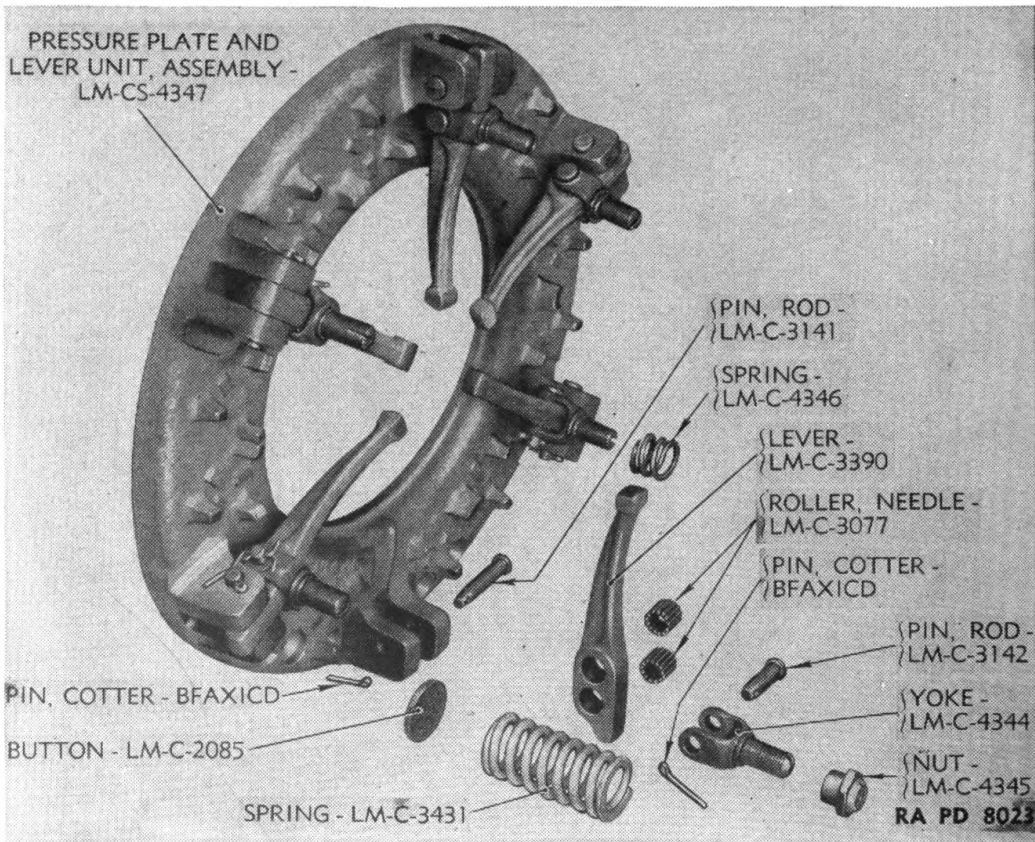

FIGURE 8.—Clutch pressure plate and lever unit assembly, exploded view.
d. Dismantle pressure plate unit assembly (fig. 8). Pliers.